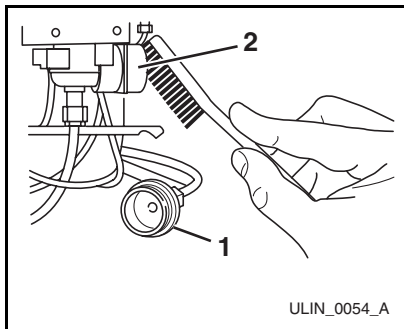

Figure 14
4. Disconnect the hose connector (**Figure 14, 1**) from the water solenoid valve (**Figure 14, 2**).
6. Re-connect the water supply hose connector (**Figure 14, 1**) to the water solenoid valve (**Figure 14, 2**). Tighten the connector securely.